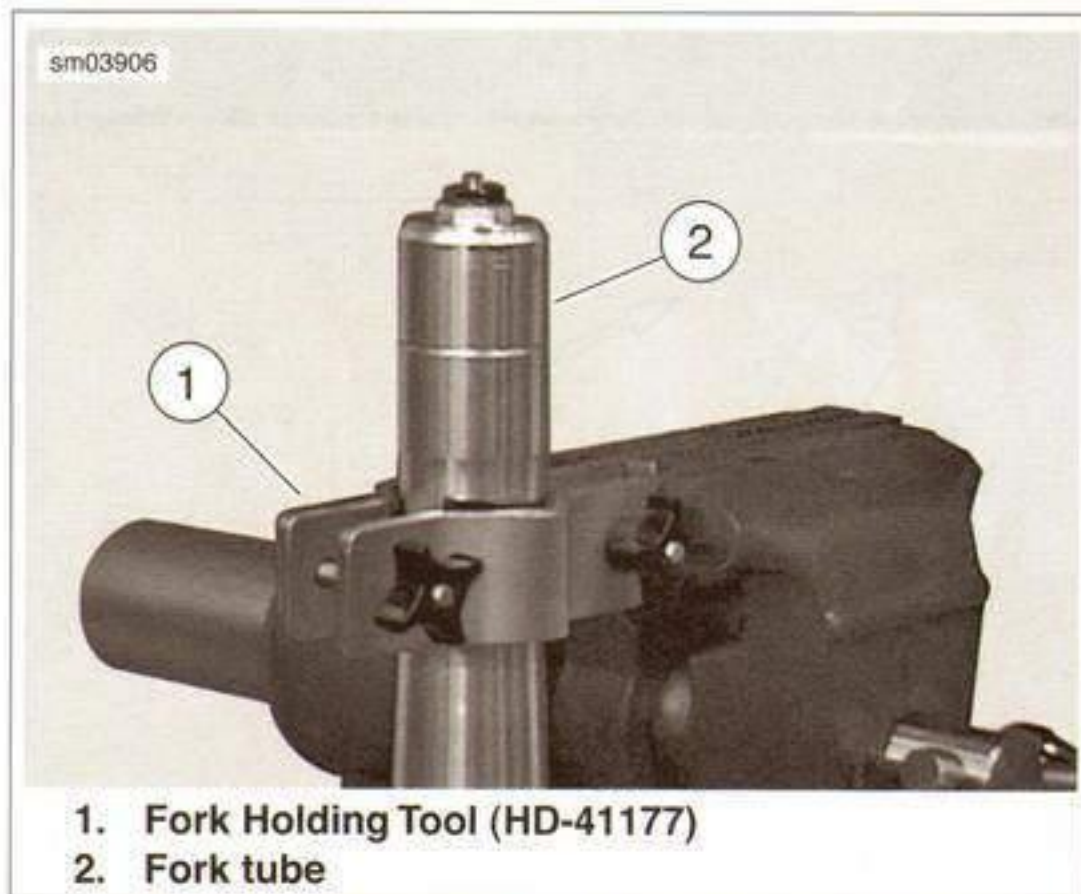

Figure 2-82. Fork Tube in Fork Holding Tool (HD-41177)
1. See Figure 2-82. Clamp the FORK HOLDING TOOL (Part No. HD-41177) in a vise and install the upper part of the front fork in the holding tool.